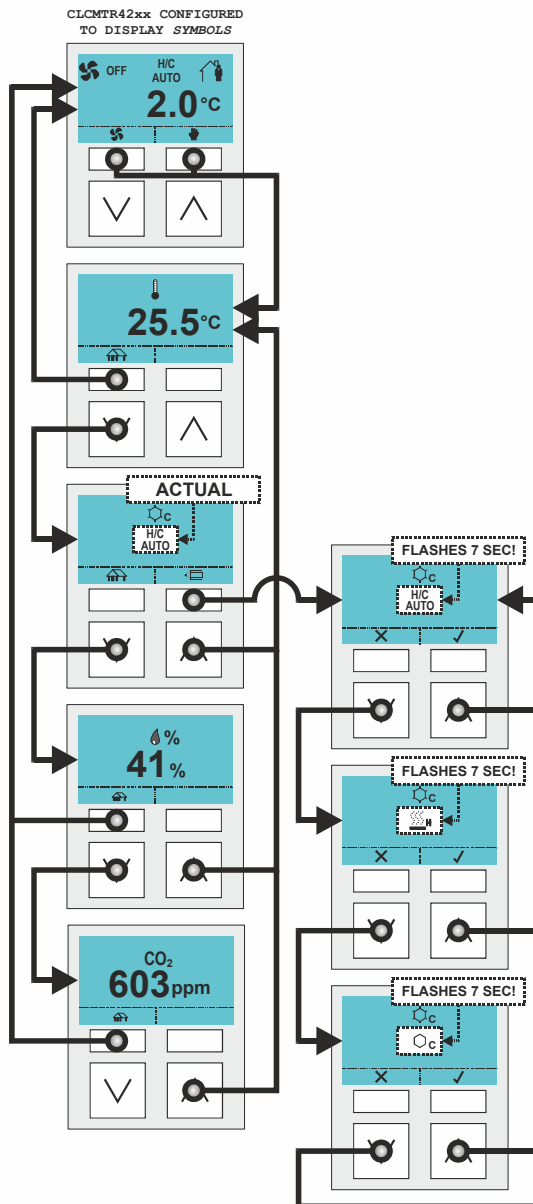

Fig. 26. Accessing the expanded menu
The user can enter the expanded menu at any time (i.e., in any mode). This is done by touching both upper softkeys simultaneously (see Fig. 26). The "temperature" screen appears first. The user can scroll to further screens ("heating / cooling," "relative humidity," and "CO2 concentration") using the left (V) or right (Δ) arrow softkey.